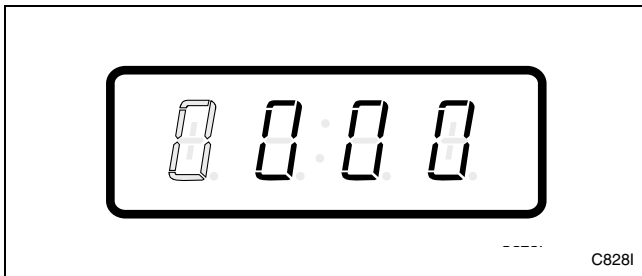

Figure 77
6. Press the START (enter) keypad to enter the fifth digit and display remaining four digits. The active digit will flash one second on and one second off. Refer to *Figure 77*.